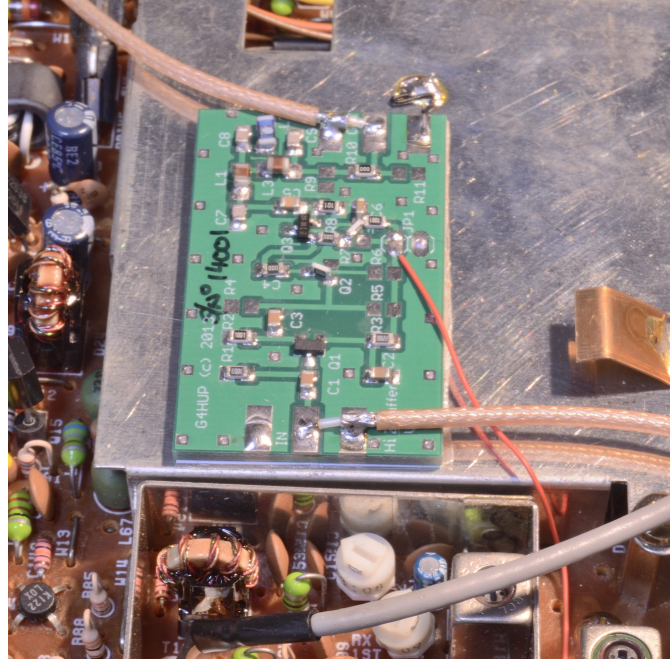
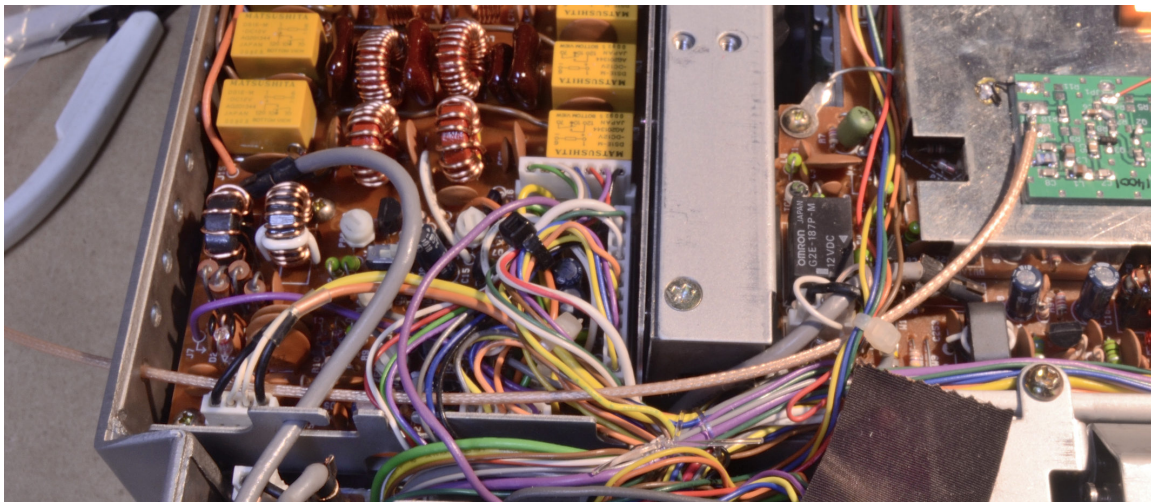

Fig 3 – General View of PAT in TS440S, showing method of terminating coax
Fig 4 – Routing of output cable from PAT through the LPF compartment
11. Prepare a 30cm length of RG178 with an SMA plug on one end – for instructions on terminating PTFE coax, see the section at the end of these instructions. Feed the prepared free end in through a ventilation hole at the side of the LPF compartment, and pass it through with all the other cable forms to reach the PAT board. Solder the inner and braid as shown in Fig 3. Fig 4 shows a general view of the output cable routing.